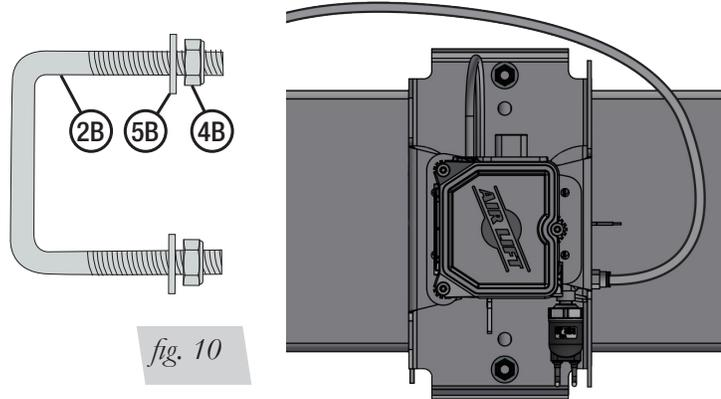

fig. 10
1. There are three choices for mounting: 1) hex cap bolts (3B) with flat washers (5B) and nylon lock nuts (4B); 2) U-bolt (2B) with washers (5B) and nylon lock nuts (4B); 3) self-tapping screws (6B). See Figure 10 for U-bolt installation.